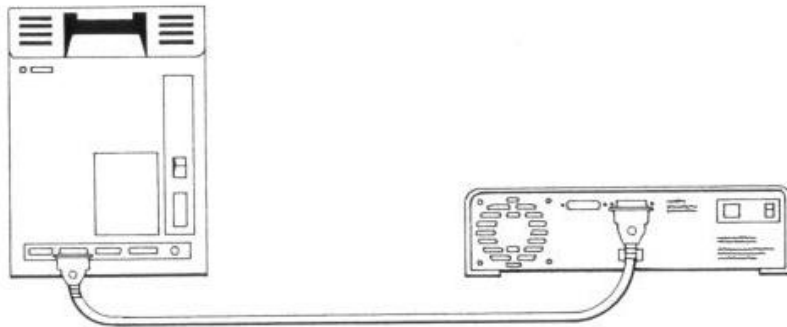

Figure 2-18. Hardware Configuration (Macintosh)
5. Your hardware configuration so far should appear as illustrated in Figure 2-18.